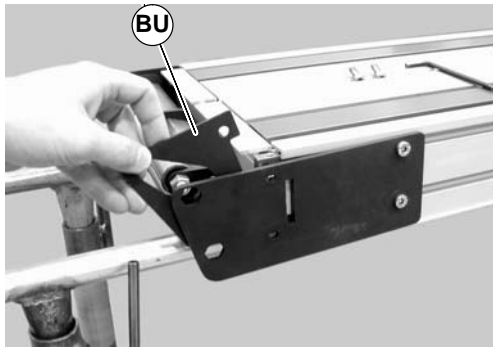

Figure 55
- Remove the inner spacer (BU of Figure 55).